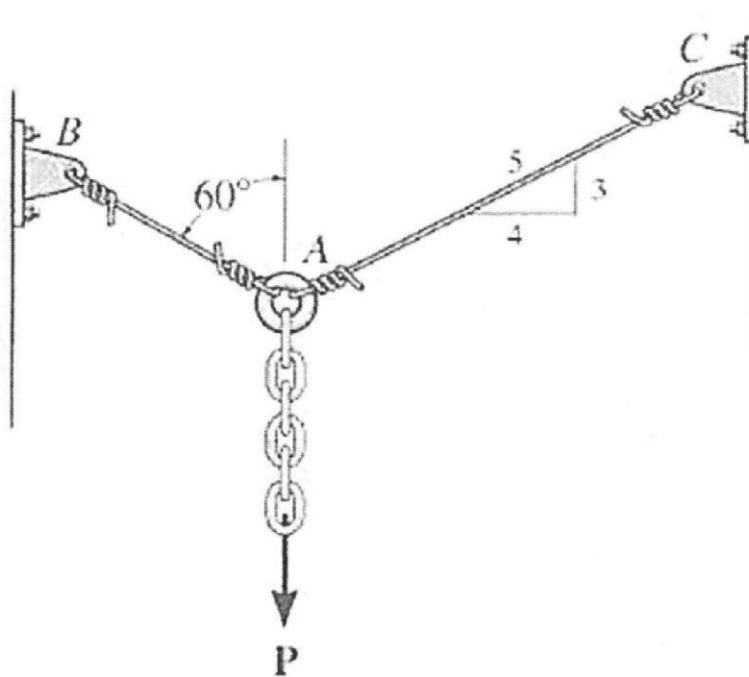

Figure 1: Two (2) wires supporting a load
3. This question paper consists of **FIVE (5)** questions. Answer **FOUR (4)** questions only.
**INSTRUCTION: Answer FOUR (4) questions ONLY.**
Two (2) steel wires AB and AC are used to support load P as shown in Figure 1. Both wires have an allowable tensile stress of  $\sigma_{allow} = 180\text{MPa}$ . Wire AB has a diameter of 6mm and wire AC has a diameter of 4mm.